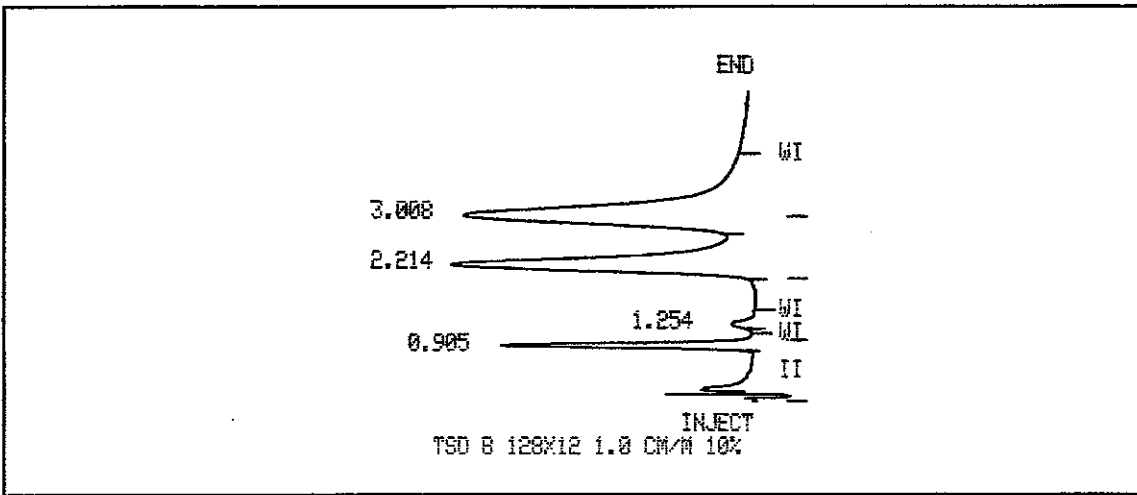

Figure 19a Packed Column (TSD)
6. Repeat step 5 until the bead current setting yields the test chromatogram shown in Figures 19a-19c.